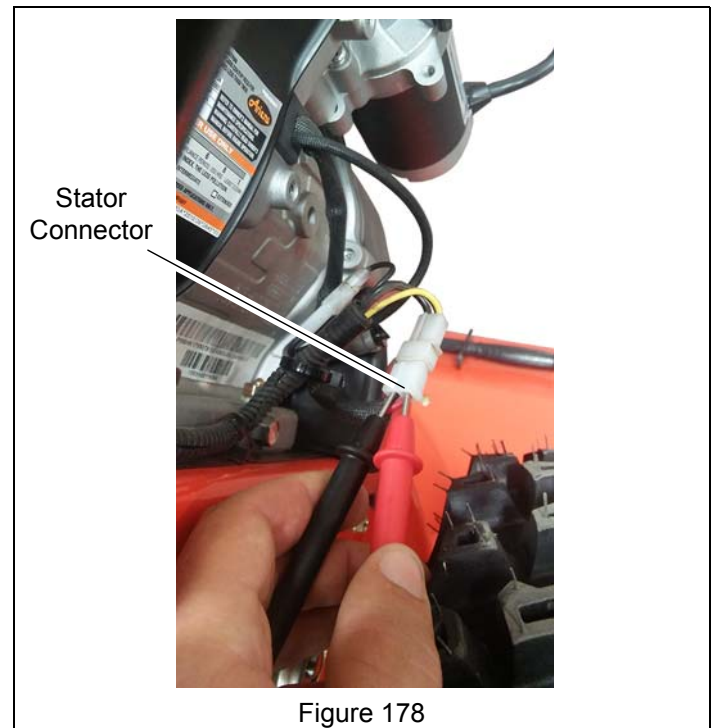

Figure 178
5. Back probe the engine stator output connector. See Figure 178.
If stator output measures over 14 V AC, replace stator. If output is within range, advance to step 3. See Figure 178.
3. Back probe the engine stator output connector. See Figure 178.